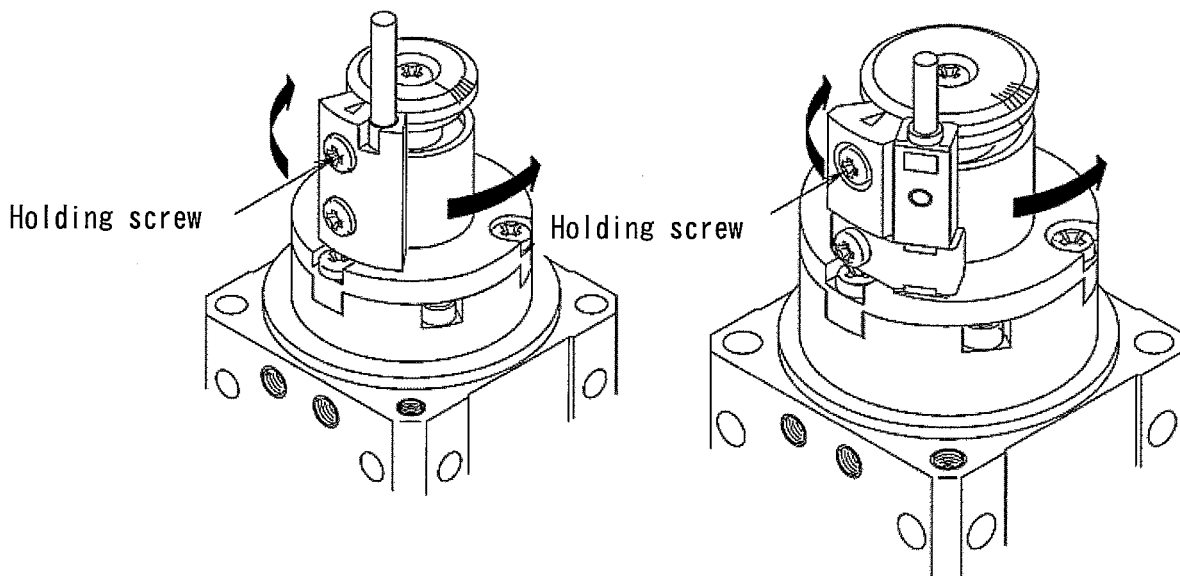
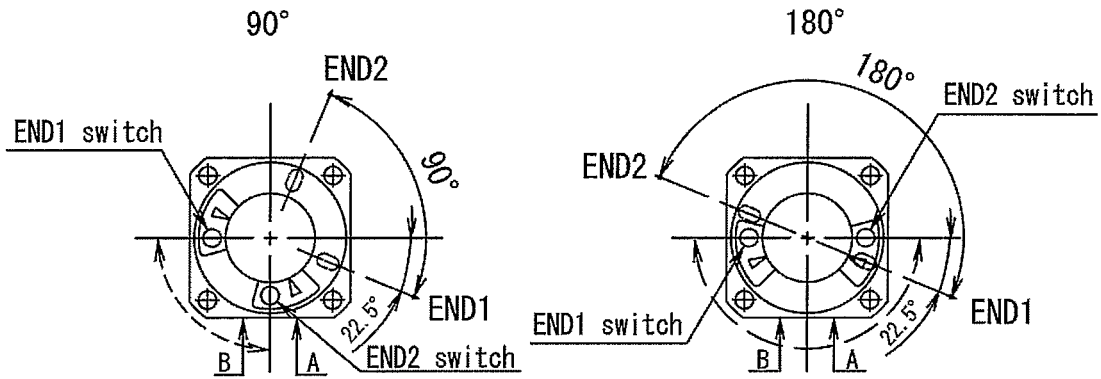

Fig. 9
Fig. 10
- In Fig. 9 and Fig. 10, the solid line arrows of the angle 90 degrees and 180 degrees show the rotation range of the dowel pin hole on the table. When the dowel pin hole is at END1, the END1 switch operates and when the dowel pin hole is at END2, the END2 switch operates.